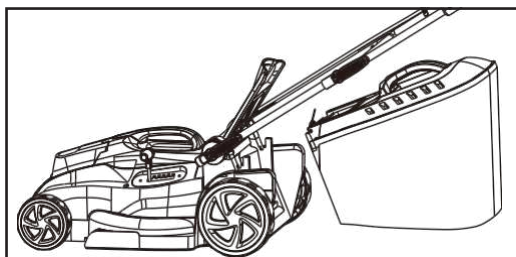

Fig. 5
2. Lift the ejector flap with one hand. With the other hand, hold the grass collection bag by the handle and hook it in from above (See Fig. 5).